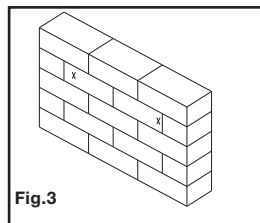

Fig.3
2. Drill two 10 mm (3/8") holes in the wall using the template as a guide. Remove any excess dust from the holes (see Fig. 3).